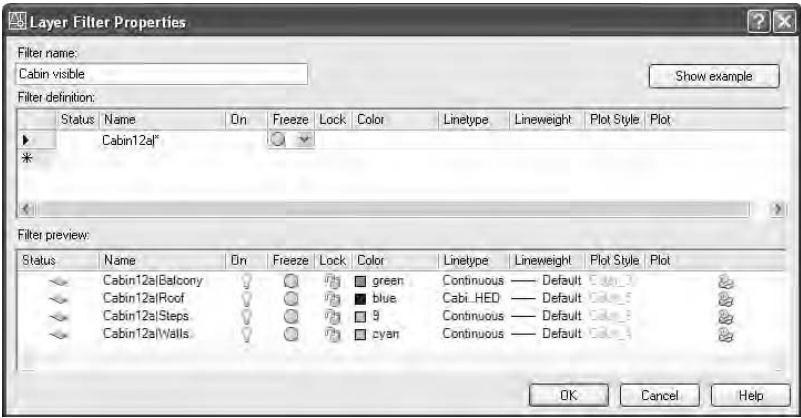

FIGURE 12.10: The new Cabin Visible filter in the Layer Filter Properties dialog box
8. Click in the box below Freeze, click the down arrow, and then click the sun. In the Filter Preview area, only the four visible Xref layers are listed (see Figure 12.10).